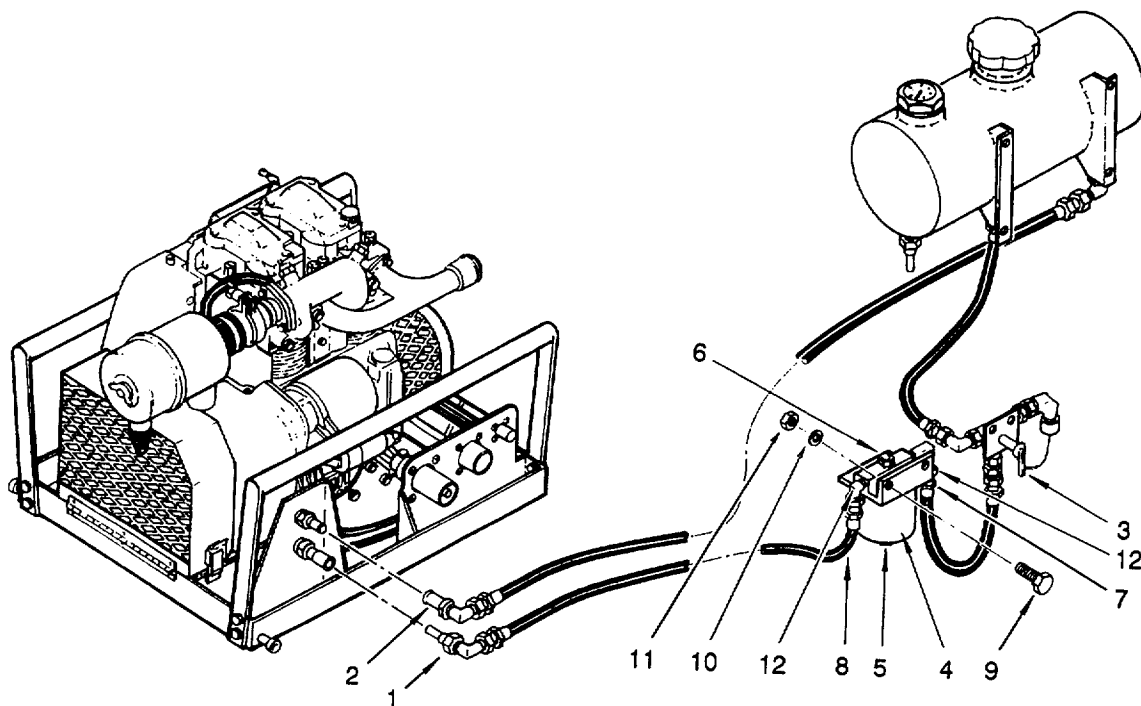

Figure 4-1. Fuel Filter Replacement
4.9.1 Replace Engine Fuel Filter. (Refer to figure 4-1.)